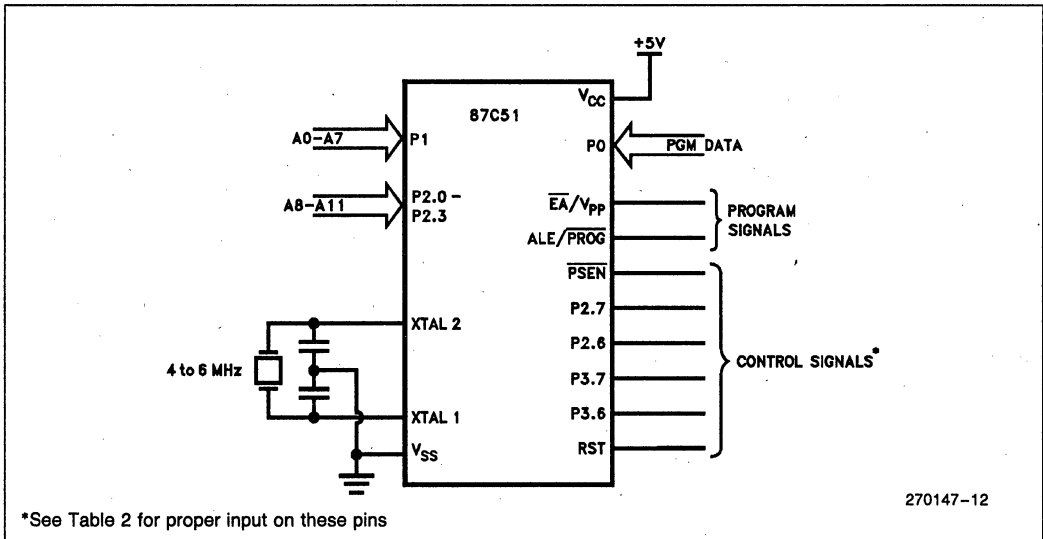

Figure 10. Programming the EPROM
Refer to Table 2 and Figures 10 and 11 for address, data, and control signals set up. To program the 87C51 the following sequence must be exercised.
*For programming conditions see Figure 10.
6. All pin numbers and the P3.3 control line deleted from Figure 10.